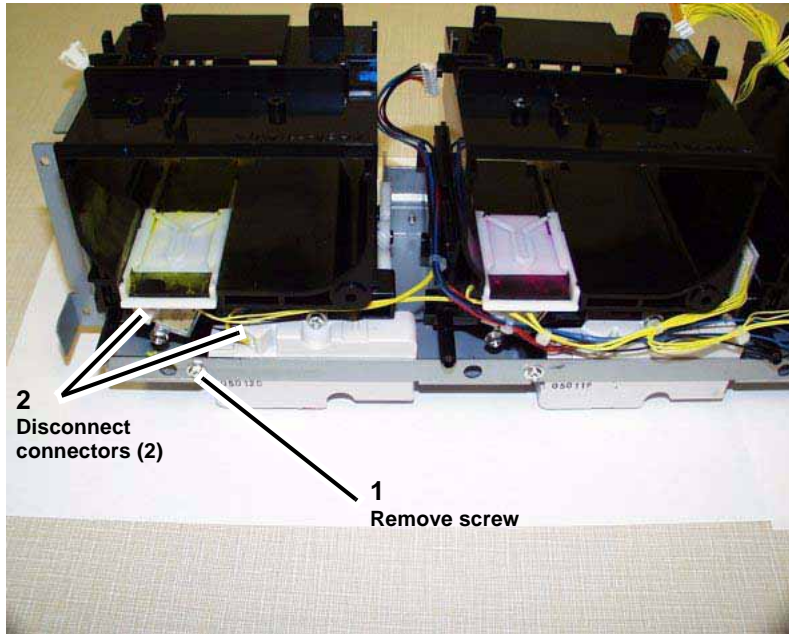

Figure 4 Removing the rear screw and disconnecting connectors
5. Remove the rear screw and disconnect connectors (Figure 4).